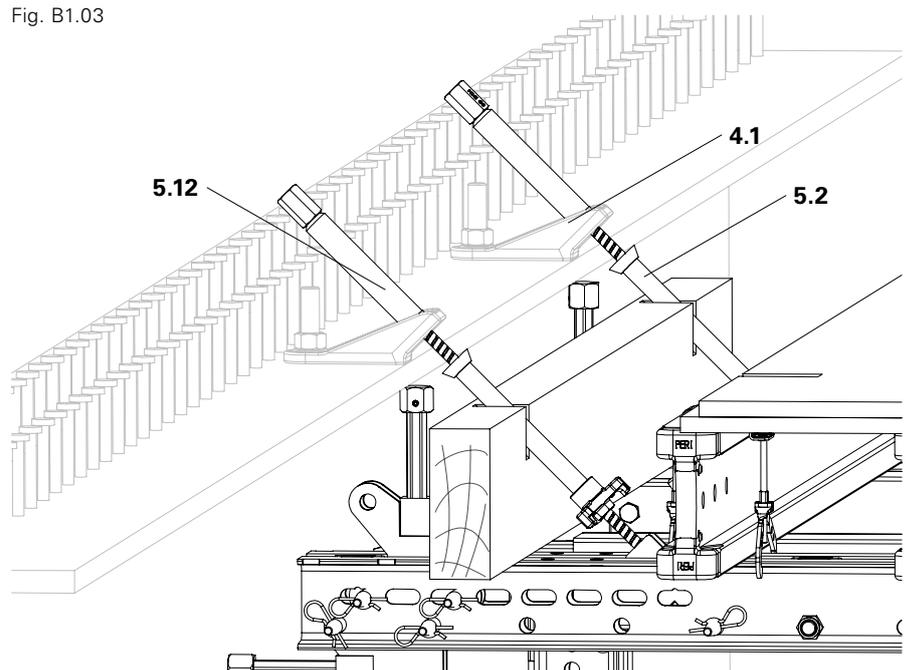

Fig. B1.03a
3. By tightening the tube nuts (5.12), pull the cantilever bracket to the superstructure until the cantilever bracket is correctly positioned and inclined. (Fig. B1.03a)